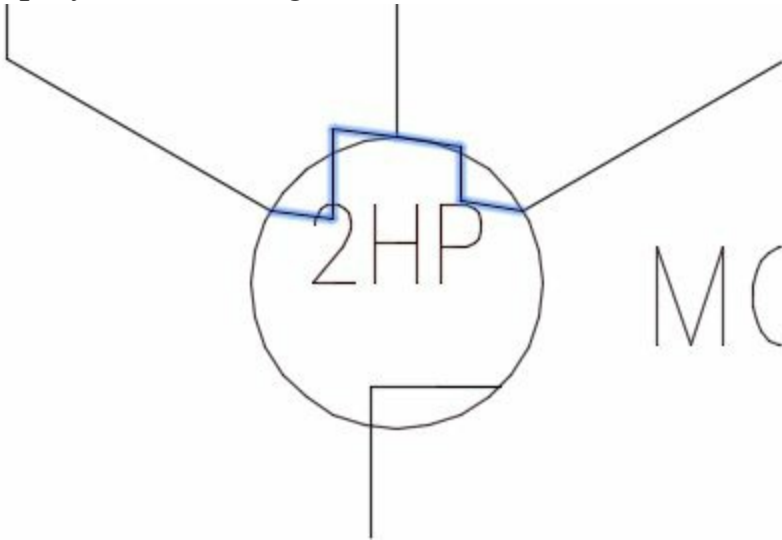

Figure-11. Jumper connecting the terminals
- Click on the **Show Jumpers** button to display the jumper in the drawing area. The jumper will be displayed connecting all the selected terminals; refer to Figure-11.